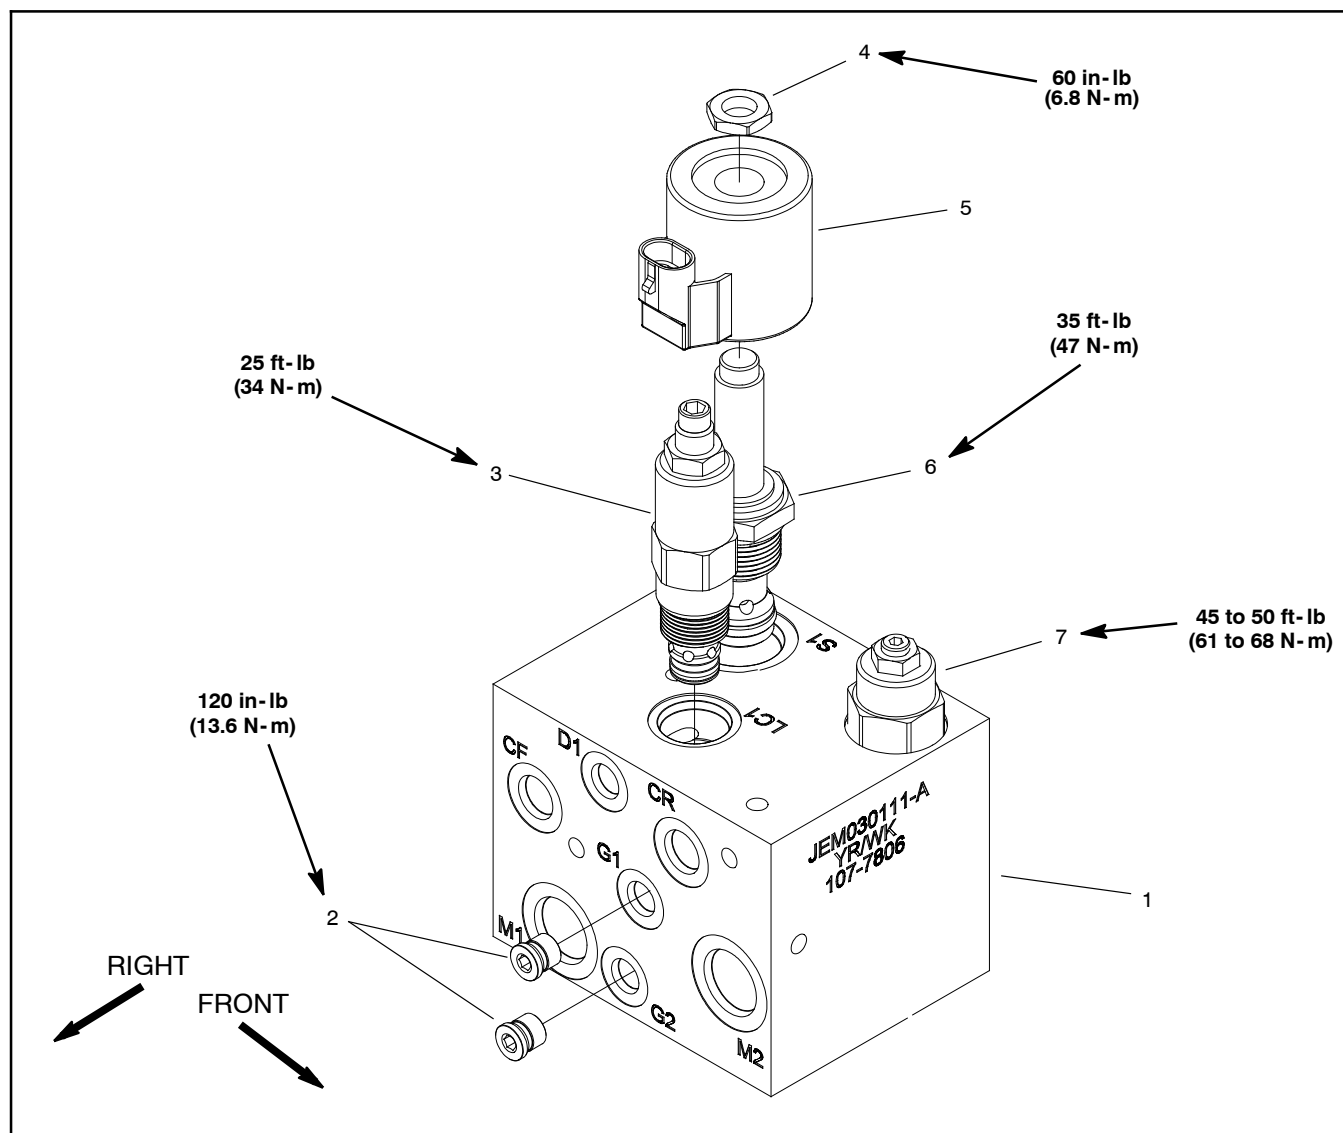

Figure 97
Cartridge Valve Service (Fig. 97)
C. Torque cartridge valve using a deep socket to valve identified in manifold illustration (Fig. 97).
D. If cartridge is solenoid operated, carefully install solenoid coil to the cartridge valve. Torque nut to valve identified in manifold illustration (Fig. 97).